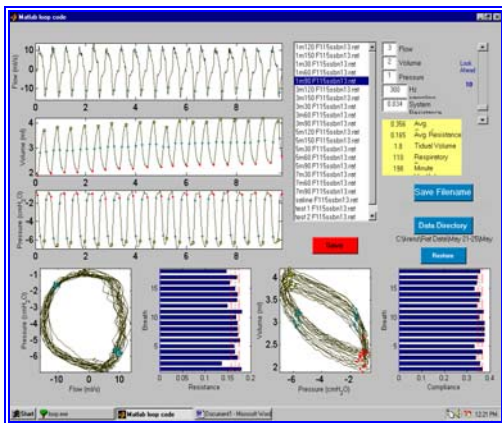
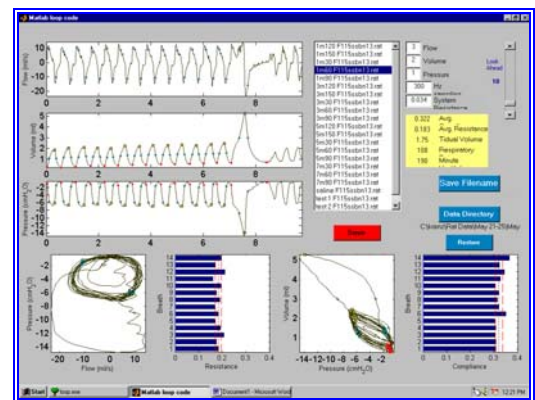
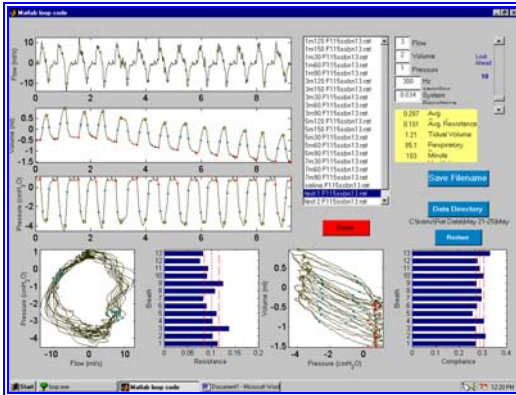

Figure 2A: Sample loop data file with no drift or bad breaths. Both loops (pressure v. flow and volume v. pressure) are 'open'.
Figure 2B: Sample loop data file containing at least one 'bad' breath. Eliminating this breath would open the loops.
Figure 2C: Sample loop data file demonstrating drift in volume channel. The loops are stacked, slowly drifting downward.
9. Data Tech will open Windaq Playback and review the breaths. Making sure that the compression is set at 1 (F7), hit F4 twice to zero the recorder and scroll a section that does not show any abnormal breaths. Cut this section (5-9 seconds) by using Ctrl V and save it as a test file in the rat's folder [example "test1_M084.rat]. Close Playback and open Loop.exe. This program cannot operate if Playback is still open. Check the settings in Loop to be sure that Pressure=channel 1, Volume = channel 2, Flow = channel 3 and that the cannula resistance is between 0.034 and 0.044. Open the test file with the control breaths and the Loop program will now calculate: compliance, resistance, tidal volume, respiratory rate, and minute ventilation. The resulting graph of volume vs. pressure should have open loops (Figure 2A). Individual breaths can be eliminated if the remaining breaths look normal (Figure 2B). If they are stacked, there is a drift in volume (Figure 2C).